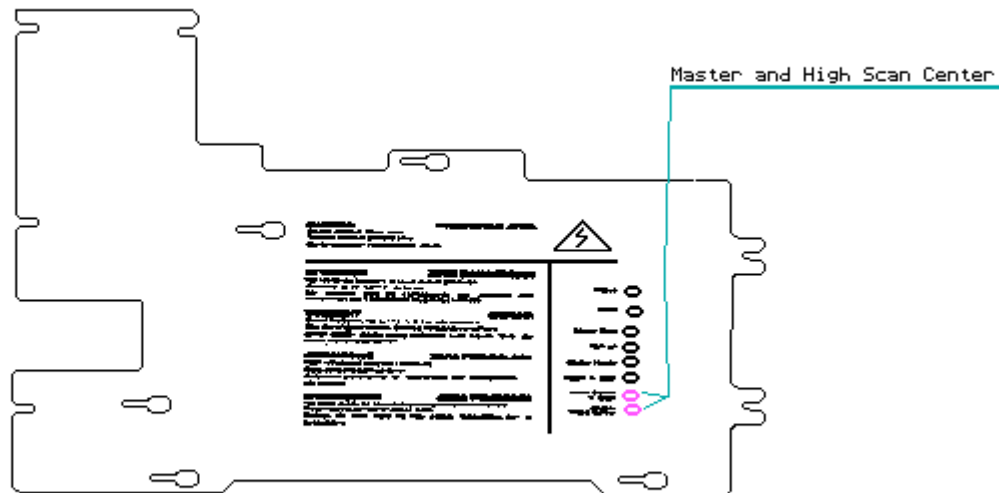

Figure 8-26. Location of the Master Video Center and High Scan Video Center Control Potentiometers
17. If your display is shifted to the right or left, a horizontal display centering adjustment is necessary. Two potentiometers control the centering of the display. One is the master video center potentiometer, which shifts the display in both a high and low resolution mode. The other one is the high scan video center potentiometer, which affects the display in high resolution mode. (Refer to Figure 8-26 for the locations of both the master video center and high scan video center control potentiometers.)